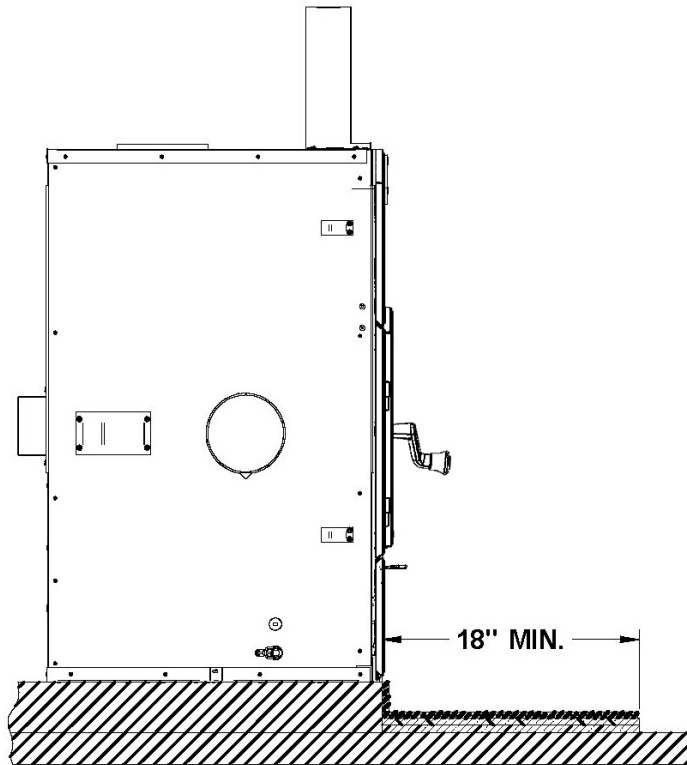
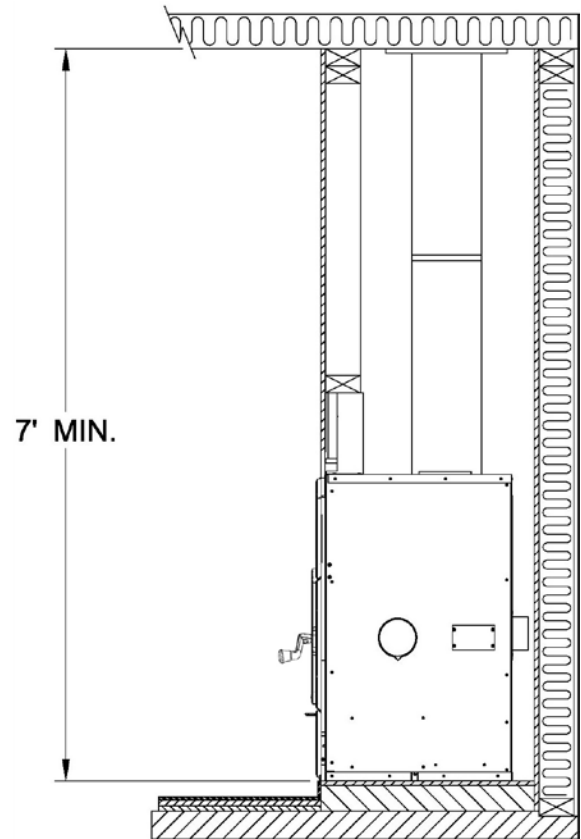

Figure 5. Installation on raised base.
Figure 6. Ceiling clearance requirements
- C. The WFP-75 may be installed directly on the floor or on a raised combustible or non combustible base (see figure 5). That base must be at least equal (or exceed) the height of the floor protection. For more information regarding the installation on a raised base, refer to the "Hearth Extension Requirements" section of this manual. Please take note that a minimum of 7 feet (2.15 m) measured from the base of the appliance to the ceiling is required (see figure 6).